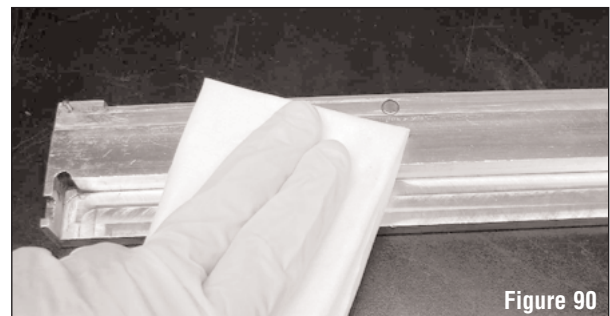

Figure 90
2. Place the PCR on the fixture (the fixture should be verified as clean prior to use. If not, clean using a combination of alcohol, lint-free cloth and compressed air, the fixture needs to be free of all contaminants including loose toner) as shown in Figure 90.